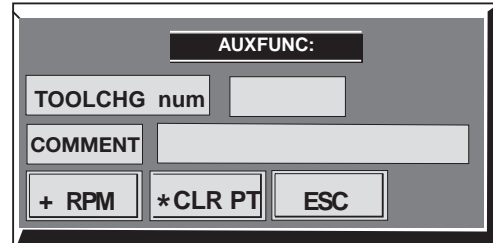

Figure G-16
2. Press the **F1** key for the Tool change, then Figure G-16 will be displayed.